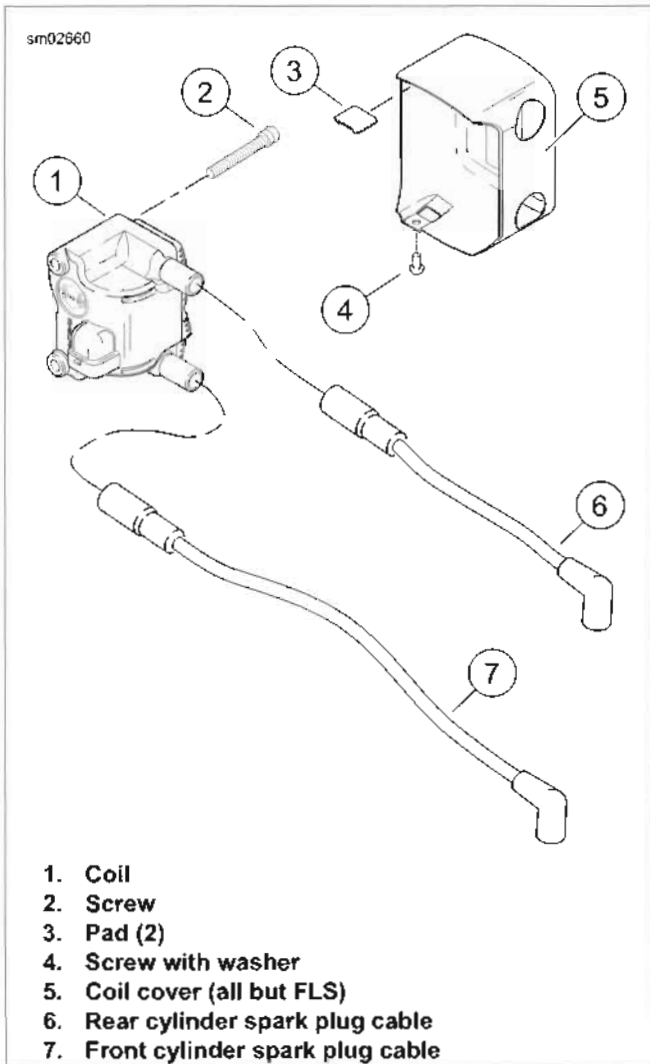

Figure 7-75. Coil (All But FXSB)
3. See Figure 7-75. Remove spark plug cables from coil.
4. Remove screw (4) to detach cover (5) from coil (1).
5. Remove two mounting screws (2) to detach coil from seat post.
2. See Figure 7-75. Position coil (1) on seat post. Install two screws (2). Tighten to 120-180 in-lbs (13.6-20.3 Nm).
3. Fasten cover (5) to coil with screw (4). Tighten to 30-40 in-lbs (3.4-4.5 Nm).